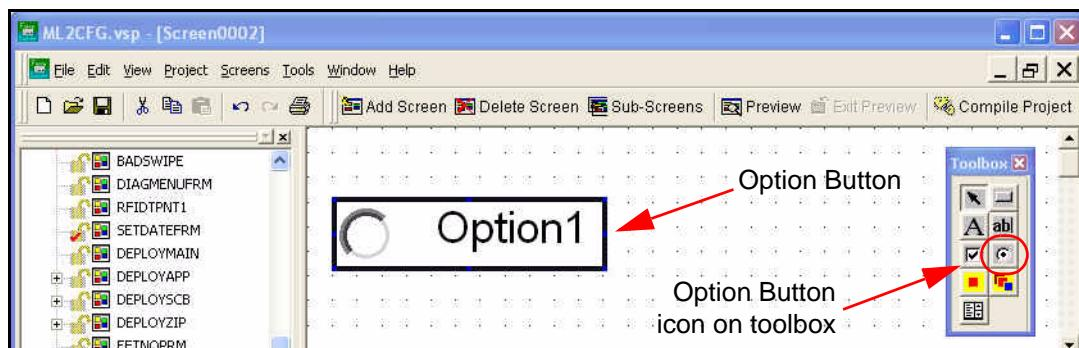

Figure 2-24 Option Button
2. Click the **Option Button** icon on the toolbox as shown in *Figure 2-24*.